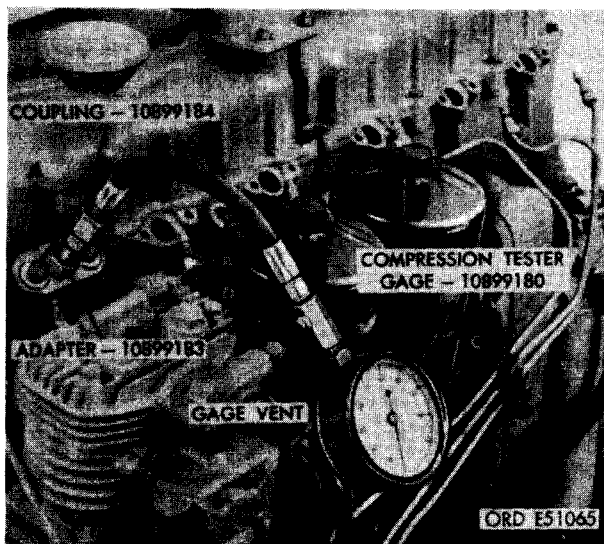

FIGURE 221. CHECKING CYLINDER COMPRESSION USING COMPRESSION TESTER GAGE -10899180, COUPLING -10899184, AND ADAPTER - 10899183.
- (3) Test cylinder compression on all cylinders as follows. Figure 221. (A) Position a new fuel injector nozzle to head gasket on end of adapter- 10899183 and install the adapter into the injector nozzle opening. Secure the adapter to cylinder head using two 5/16 x 2- 1/2 cap screws and 5/16- inch lock washers provided for securing the nozzle and holder assembly clamp. Apply a light coating of grease on the gasket to prevent gasket from falling off adapter as it is installed in the head. (B) Connect compression tester gage -10899180 and coupling -10899184 to the adapter - 10899183 and tighten the connection securely. (C) Crank engine several seconds at 150 to 180 rpm using the engine starter motor. Observe cylinder compression reading on gage. Cylinder compression should be from 500 to 550 psi at engine cranking speed. (D) Depress pressure gage vent to release pressure to reset gage to zero reading after first test. Release gage vent and repeat test.